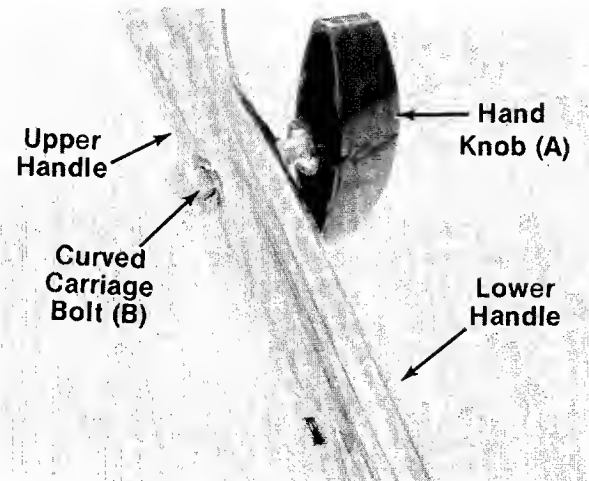

FIGURE 4.
4. Place upper handle over lower handle. Secure with two carriage bolts (B) and hand knobs (A) as shown in figure 4. The knobs can be either to the inside or the outside of the handle.